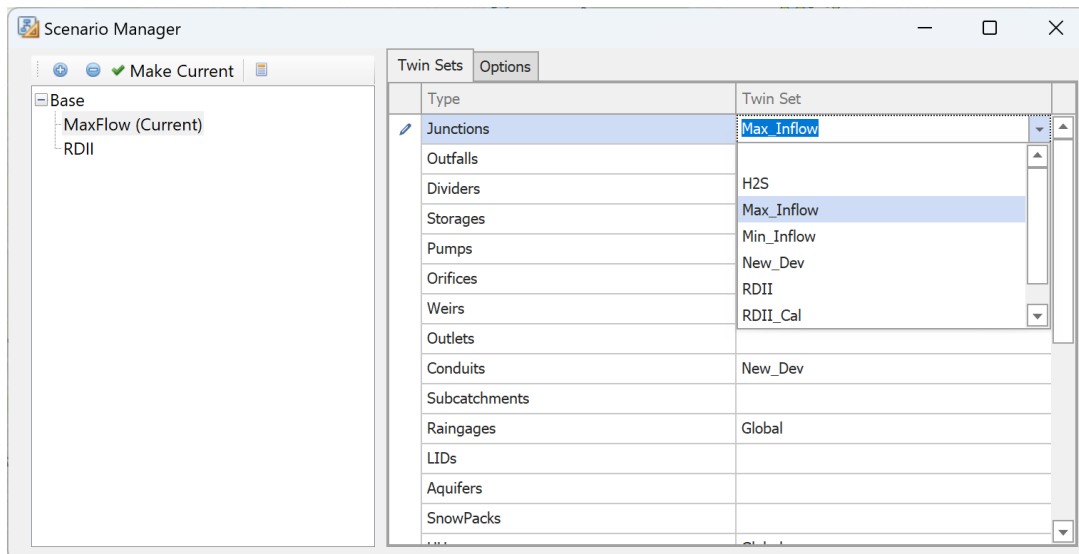

Figure 6: Assigning *Twin Sets* to scenarios in AquaTwin Sewer.
1. In the scenario manager, *Twin Sets* can be assigned to scenarios by selecting the desired scenario and adding the *Twin Set* from the dropdown menu for network types (**Figure 6**).